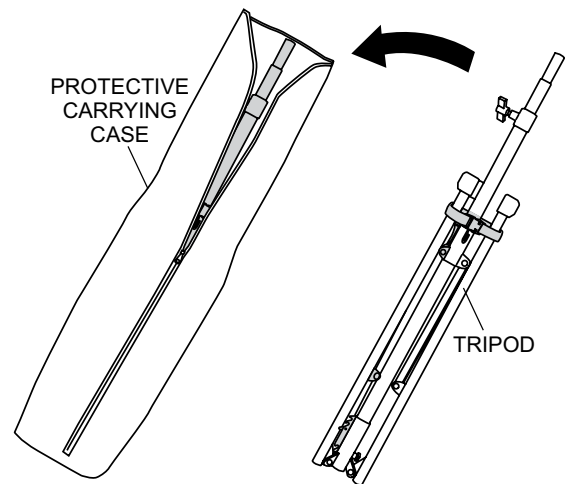

Figure 23. Carrying Case
- Place tripod (Figure 23) inside protective carrying case.